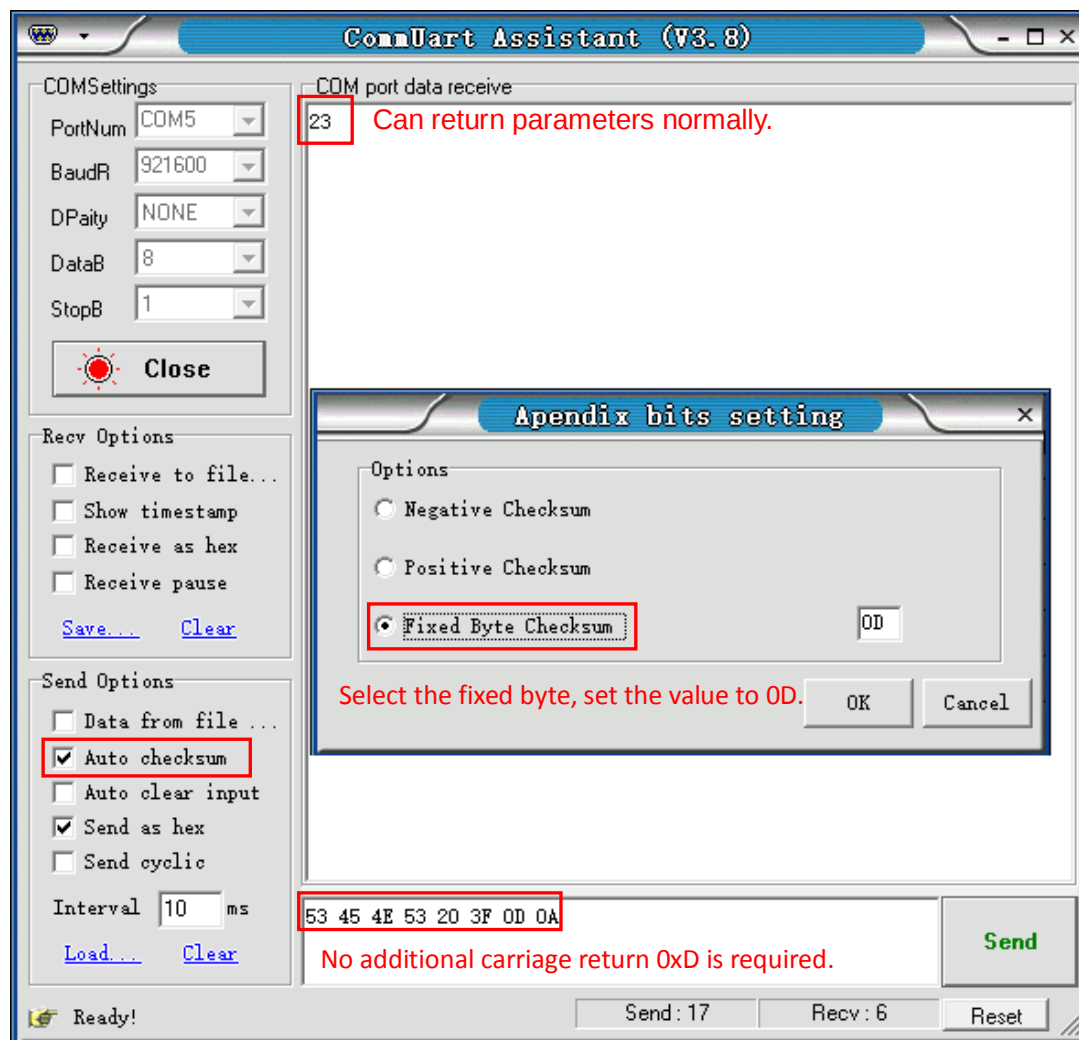

Fig.111 Setting the checksum
2) The serial assistant can be configured to automatically add carriage return 0X0D. You just need to click ☐ **Auto checksum** and choose ☐ **Fixed Byte Checksum**. Finally, set the additional digit to <0D> as Fig.111.